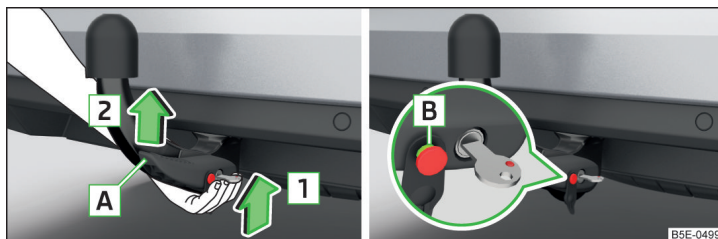

Fig. 164 Insert ball rod / trigger bolt in the extended state
- Grip the tow bar **from underneath** » Fig. 164 and insert into the mounting recess in arrow direction **1** until you hear it click into place » **!**.